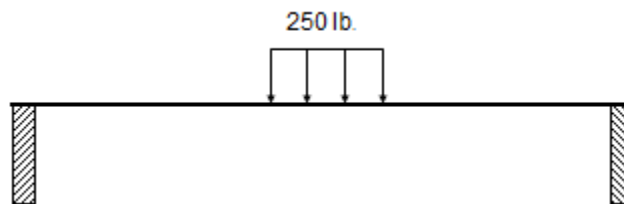

Figure 3. Uniformly Distributed Load
5. Each beam **must** support 250 lb. distributed over 6 in. at the center of the bridge (see Figure 3). Failure is defined as collapse or deflection (> 1.5 in.) resulting in contact between the bridge and the horizontal base of the support.